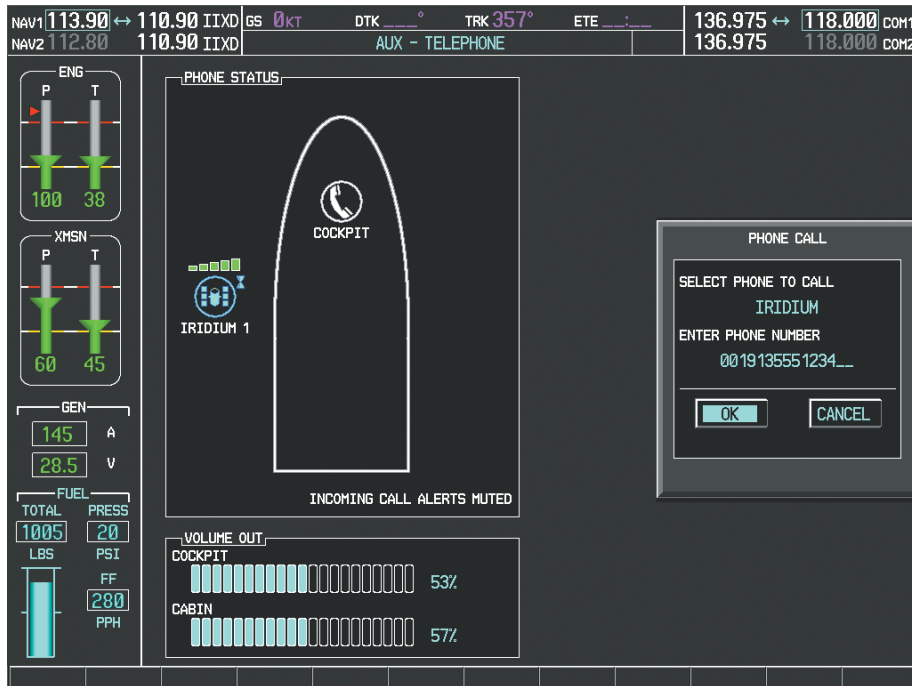

Figure 8-82 Make the Call
- 4) Press the **ENT** Key. 'OK' is highlighted as in Figure 8-82.